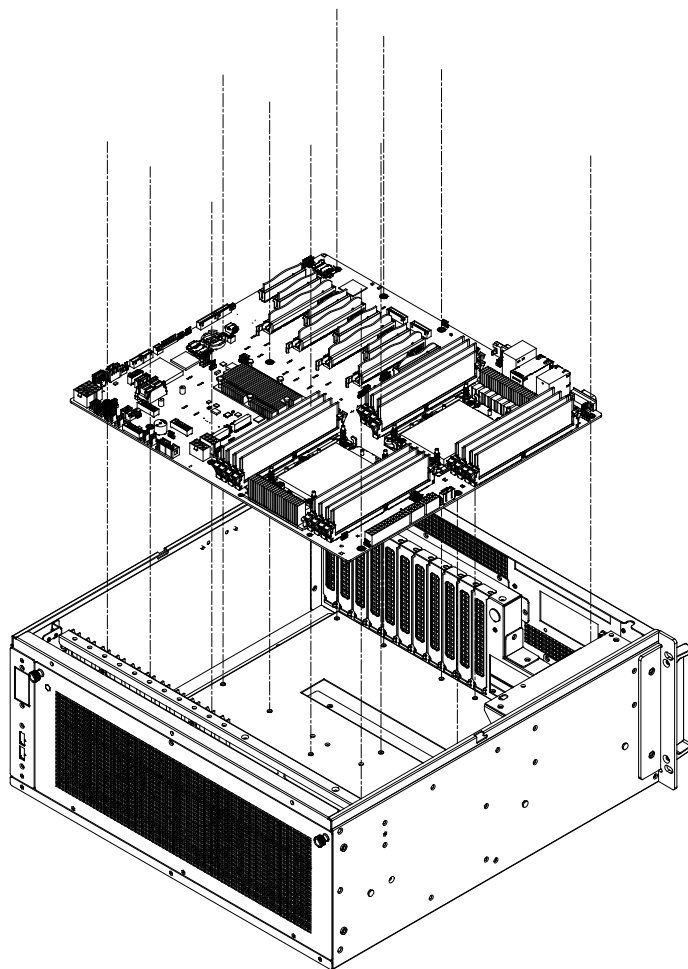

Figure 2.3 Fasten the Stub Copper and Screws/ 固定铜柱与螺丝 / 固定銅柱與螺絲
- Figure 2.2 shows the stub copper location for attaching the specific EEATX/EATX/ATX motherboard. Users can find the stub copper in the accessory box. Lock the stub copper into the correct location and then rotate counterclockwise to fasten it into the chassis (See Figure 2.3).
- 图 2.2 标示了用于安装特定 EEATX/EATX/ATX 主板的铜柱位置，用户可以于配件盒中找到铜柱。将铜柱锁入相应的位置，然后沿逆时针方向旋转将其固定在机箱上（如图 2.3 所示）。
2. Attach the motherboard I/O shielding onto the rear plate first. Then fasten the motherboard onto the chassis (see Figure 2.3).
2. 将主板的 I/O 屏蔽衬垫放在后面板上，然后把主板固定在机箱上（如图 2.3 所示）。